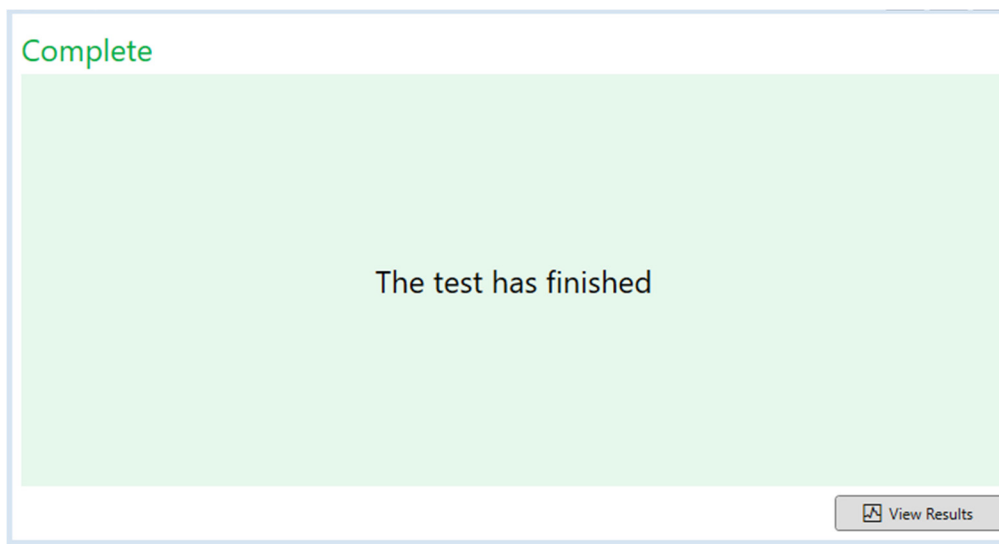

Figure 14. BG Analytics® Complete Screen
8. Upon completion of the test in all wells, BGA automatically proceeds to the **Complete** screen and displays “The test has finished” (as shown in Figure 14).